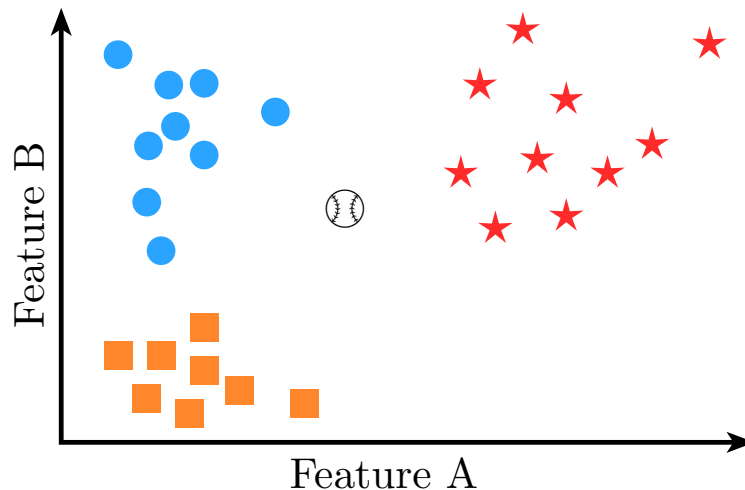

Figure 4.1: Three Categories of Data
- b. Given the data in Figure 4.1, explain how to use the k-Nearest Neighbor algorithm to classify the ⚾. (Hint: Use figures to support your explanation.)